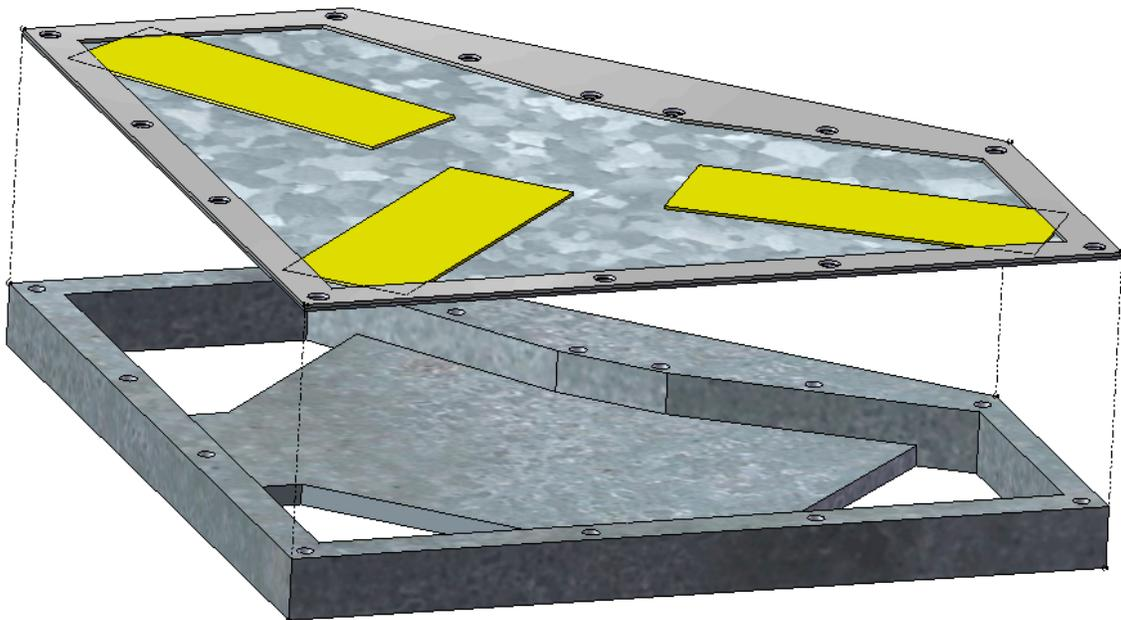

Figure 3-8: Scale modeling cover positioned above scale model housing
- 6) Before the RTV dries, place the bottom of the scale model cover on top of the scale model housing. See Figure 3-8.